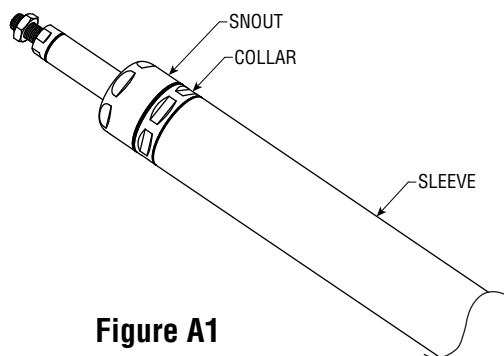

Figure A1
- a. While firmly holding the Collar by the flats, remove the Snout (see Figure A1).